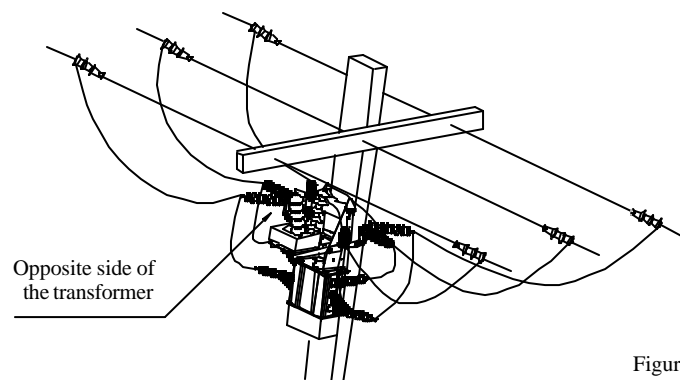

Figure 9
- Connect the side of the switch with no transformer to the line (Figure 9), in order to ensure that when the line is energised the transformer receives the charge simultaneously through the two primary terminals.